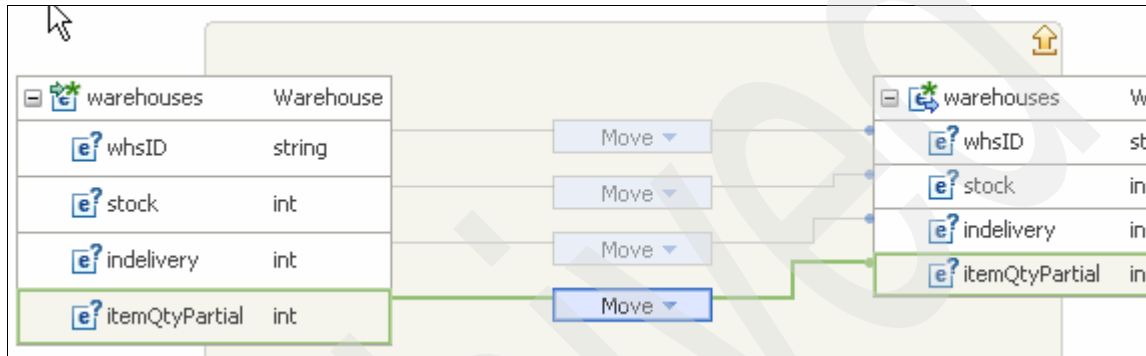

Figure 6-41 Explicit mapping for warehouse array elements
- f. For the warehouses array, change the **Move** operation to an **Inline map** operation using the blue down arrow next to **Move**. Double-click this Inline Map to open the implementation details. Then, wire each array element manually as shown in Figure 6-41.